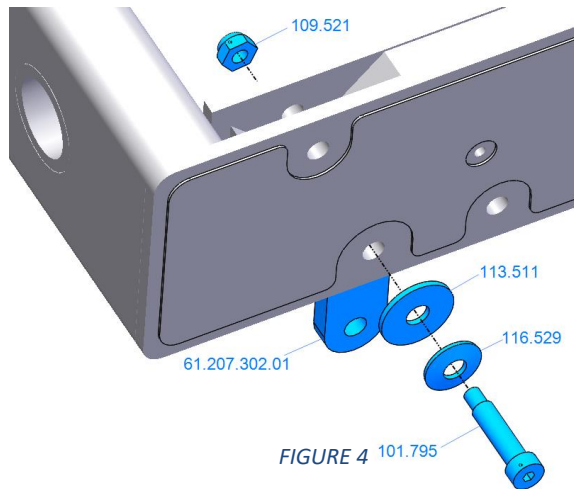

FIGURE 4
4. Install the 750-LFC grid link using the hardware shown in FIGURE 4. Note that the smaller diameter of the Bellville/ conical washer, 116.529, is to contact the screw head, 101.795, as shown below. Torque to 20-24 in-lbs [2.3-2.7 N-m]